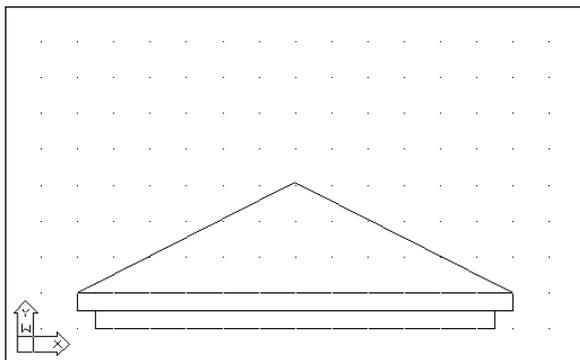

Figure 5-4: The final architectural drawing.
9. Save your drawing. It should look like Figure 5-4. Notice how the grid and snap settings facilitate the drawing process.